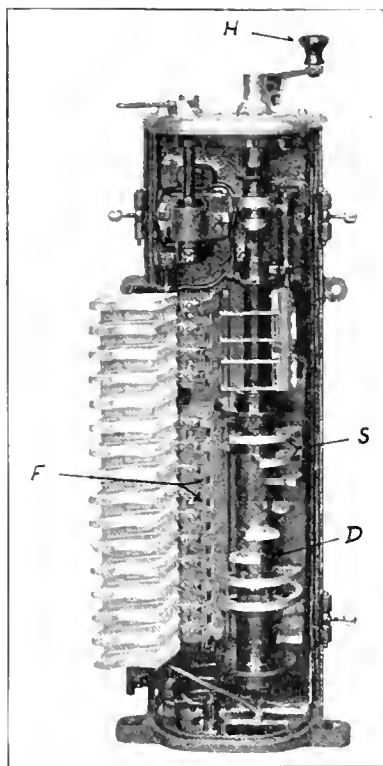

FIG. 18. MASTER CONTROLLER ELECTRO-MAGNETIC SYSTEM.
A. A view of the master controller with cover removed is shown by Fig. 18. It consists of a drum "D" composed of segments "S" which are of greater diameter and arranged so that as the handle "H" is revolved, revolving the drum "D" the segments "S" are brought into contact with the fingers "F." Each finger is connected by a wire to one of the switch solenoids and current passes from the drum through the finger to the solenoid and the switch is closed. As noted in the photo Fig. 18 the segments are so arranged or located on the drum that the switches will be closed in the correct progression and combination to give proper operation of the motors.